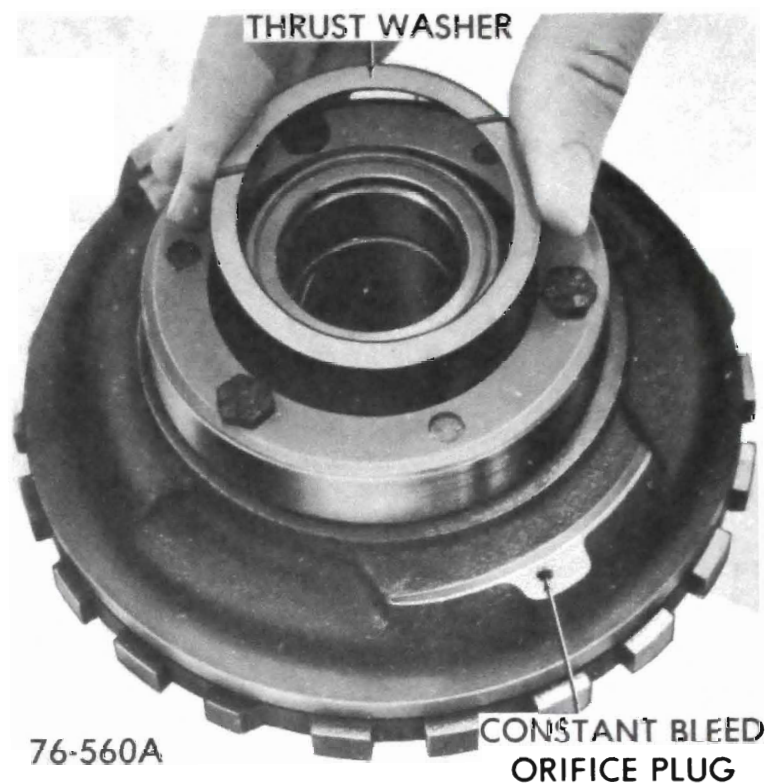

Figure 76-137
17. Lubricate with petroleum jelly and install center support to reaction carrier thrust washer into recess in center support. See Figure 76-137.